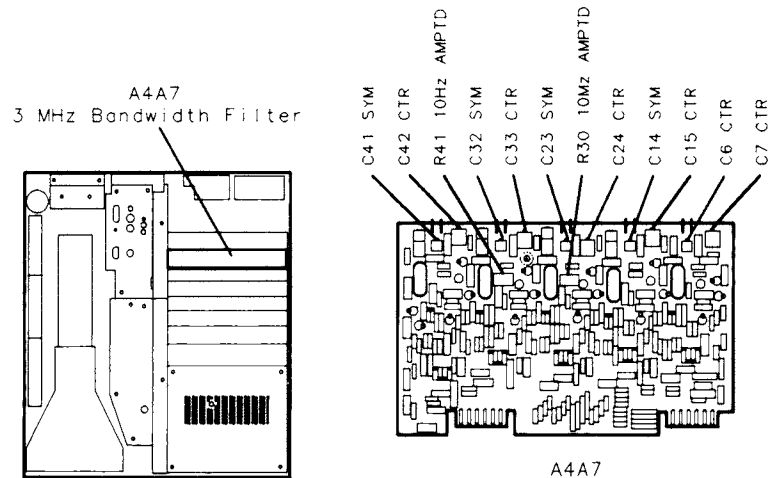

Figure 3-38.
7. On A4A7 3 MHz Bandwidth Filter Assembly connect crystal filter bypass networks between the two test points above C41 SYM, C32 SYM, C23 SYM, and C14 SYM. See Figure 3-38 for the location of A4A7 3MHz Bandwidth filter.
8. Adjust A4A7C7 CTR for minimum amplitude of the displayed signal peak. Adjust A4A7C6 SYM for best symmetry of the displayed signal. Repeat adjustments to ensure that the displayed signal is nulled and adjusted for best symmetry. See Figure 3-38 for location of adjustments.
10. Adjust A4A7C15 CTR for minimum amplitude of the displayed signal peak. Adjust A4A7C14 SYM for best symmetry of the displayed signal. Repeat adjustments to ensure that the signal is nulled and adjusted for best symmetry. See Figure 3-38 for location of adjustments.
12. Adjust A4A7C24 CTR for minimum amplitude of the displayed signal peak. Adjust A4A7C23 SYM for best symmetry of the displayed signal. Repeat adjustments to ensure that signal is nulled and adjusted for best symmetry. See Figure 3-38 for location of adjustments.
14. Adjust A4A7C33 CTR for minimum amplitude of the displayed signal peak. Adjust A4A7C32 SYM for best symmetry of the displayed signal. Repeat adjustments to ensure that signal is nulled and adjusted for best symmetry. See Figure 3-38 for location of adjustments.
16. Adjust A4A7C42 CTR for minimum amplitude of the displayed signal peak. Adjust A4A7C41 SYM for best symmetry of the displayed signal. Repeat adjustments to ensure that the signal is nulled and adjusted for best symmetry. See Figure 3-38 for location of adjustments.
42. Adjust A4A7R30 10 Hz AMPTD and A4A7R41 10 Hz AMPTD equal amounts to set the signal level the same as the reference level set in step 39. See Figure 3-38 for location of 10 Hz AMPTD adjusts.